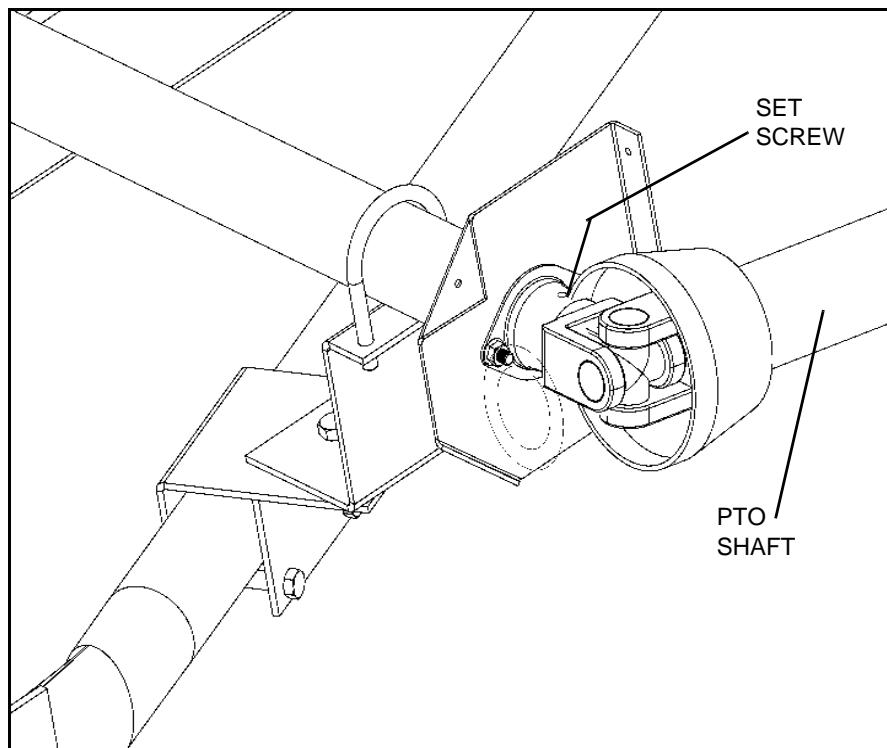

Figure 3.45 PTO Shaft Installation
12. Clean paint and dirt from shaft on PTO drive assembly and PTO driveline ends, then attach using a 1/4" x 1-1/2" square key (Figure 3.45). **Tighten set screws.**